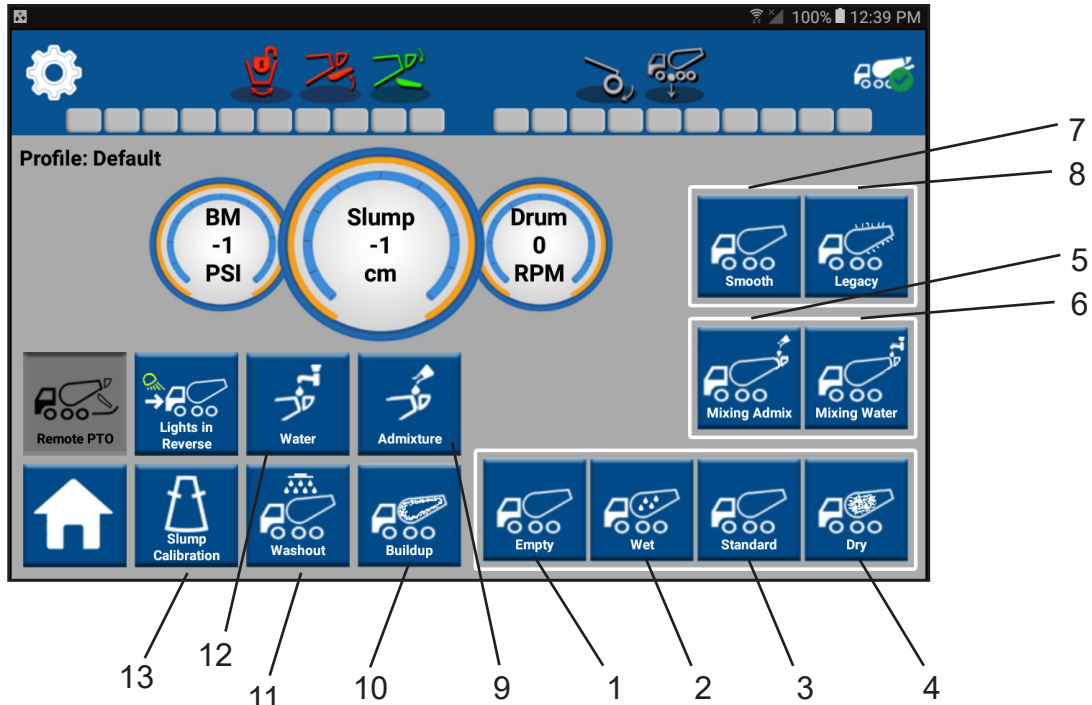

Figure 26
- Empty (Figure 26, Item 1). Spins the drum at 1 RPM in Constant Speed.
- Wet (Figure 26, Item 2). Spins drum at 5 RPM Low Constant Speed and 12 RPM High Constant Speed.
- Standard (Figure 26, Item 3). Spins drum in two configurable constant speeds (Low: 1-3 RPM; High: 3.1-7 RPM).
- Dry (Figure 26, Item 4). Spins the drum at 1.5 RPM in Constant Speed.
- Mixing Admix (Figure 26, Item 5). Throttles up the truck to mixing speed and mixes for 30 revolutions before returning to Constant Speed.
- Mixing Water (Figure 26, Item 6). Throttles up the truck to mixing speed and mixes for 70 revolutions before returning to Constant Speed.
- Smooth (Figure 26, Item 7). Allows drum to transition to new direction/velocity with dampening to minimize wear. This is the recommended operating mode.
- Legacy (Figure 26, Item 8). Allows quick transition (faster transition than “Smooth”) to new direction/velocity without dampening.
- Admixture (Figure 26, Item 9). Allows addition of prescribed amount directly into drum, and record amount added and time of addition.
- Buildup (Figure 26, Item 10). Starts a buildup test on the drum to determine if there is ~2000 lbs. of buildup. The system performs the drum test controlling the drum for approximately one minute. The system then prompts the operator: No buildup detected; Test conditions not met; Possible buildup. Test should be performed on a regular schedule for the most accurate reading. McNeilus recommends once daily.
- Washout (Figure 26, Item 11). Allows selection of up to 4 washout zones. Each zones will wash for predetermined set of time.
- Water (Figure 26, Item 12). Allows addition of prescribed amount of water directly into the drum, records amount added, and time of addition.
- Slump Calibration (Figure 26, Item 13). This screen is used to load and save slump calibrations. These values are used for the inch readouts for the Slump gauges used on the Drum and Slump screens. See 12.12 Concrete Slump Meter and 12.12.2 Setting the Digital Concrete Slump Meter for FLEX Controls Only for more information.